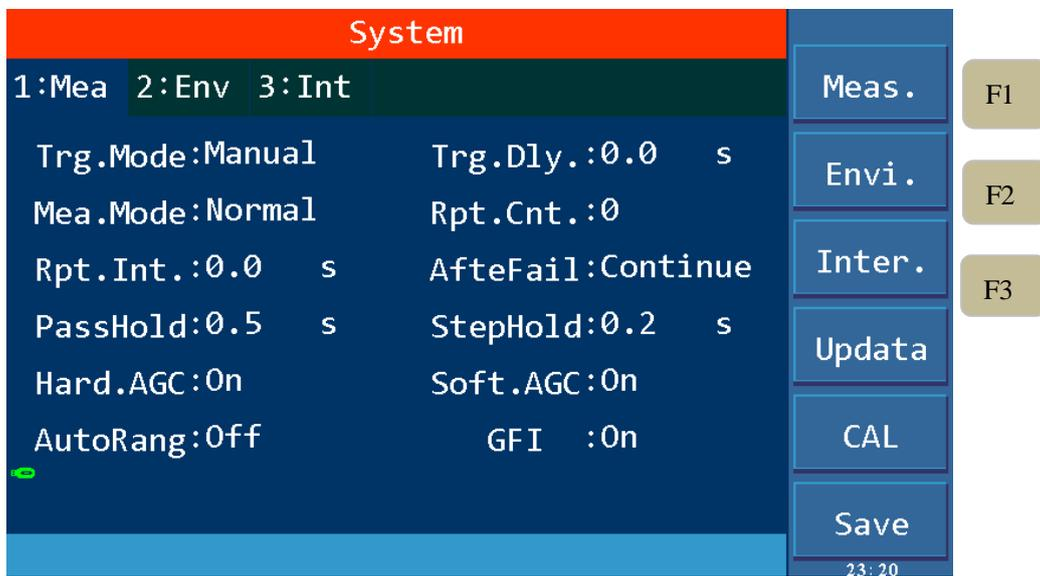

Figure 4-2 SYSTM Test Parameter Settings
1. Press `[[SYSTEM]]` key to enter the system setting interface shown in Figure 4-2.
Test related parameters setting in SYSTEM are shown in Figure 4-2:
1. Press **[SYSTEM]** to enter the system setting interface shown in Figure 4-2.
1. Press `[[SYSTEM]]` to enter the system setting interface shown in Figure 4-2.